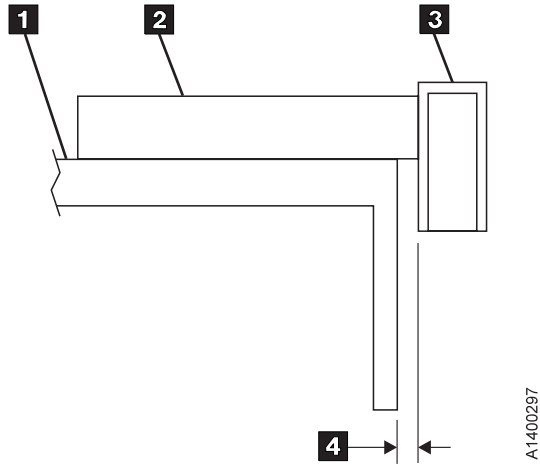

Figure 227. Side View of Model B11/E11 Drive and ACF on Work Bench
Note: See Figure 227 on page PROC-14 for safe placement of the drive and ACF, when the ACF is reattached to the drive for servicing the device. Be sure the drive **2** is placed on the **test/work surface 1** so as to avoid any danger of tipping forward, or off the work surface due to the added weight of the ACF **3**.
- 10. Go to step 3 on page INST-19 to install the ACF. Return here after completing the procedure. Remember the maximum dimension **4** in Figure 227.